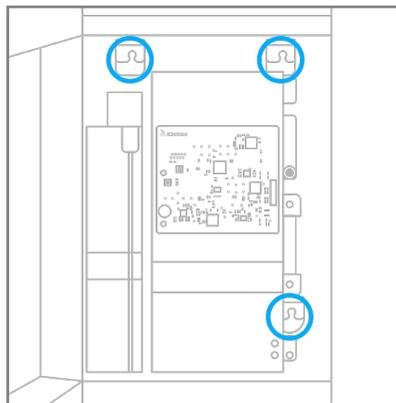

Figure 07.
Step 4: Reinstall the lower right screw and tighten the two upper screws (Figure 07.).